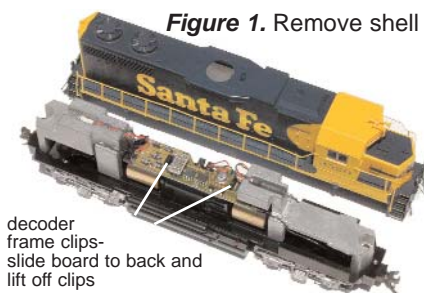

Figure 1. Remove shell
1. Carefully remove the locomotive's shell from the frame. Notice the orientation of the circuit board inside so that you can install the decoder in the same orientation. (*Figure 1*)